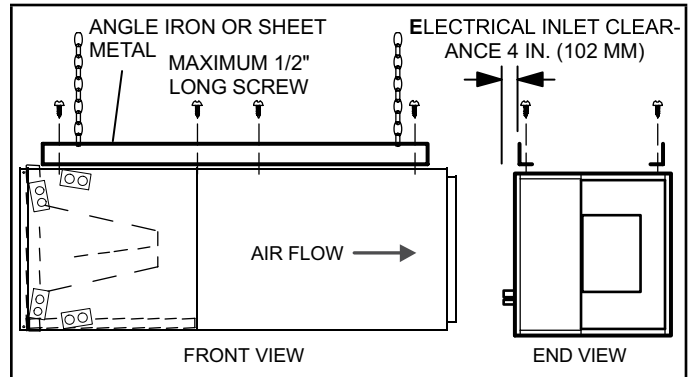

Figure 6. Suspending Horizontal Unit
- 6 - If the unit is suspended, the entire length of the cabinet must be supported. If you use a chain or strap, use a piece of angle iron or sheet metal attached to the unit (either above or below) to support the length of the cabinet. Use securing screws no longer than 1/2 inch to avoid damaging the coil or filter. See Figure 6. Use sheet metal screws to connect the return and supply air plenums as required.
- 11 - If suspending the unit, it must be supported along the entire length of the cabinet. If using chain or strap, use a piece of angle iron or sheet metal attached to the unit (either above or below) so that the full length of the cabinet is supported. Use securing screws no longer than 1/2" to avoid damage to coil or filter, as illustrated in Figure 6. Connect return and supply air plenums as required using sheet metal screws.